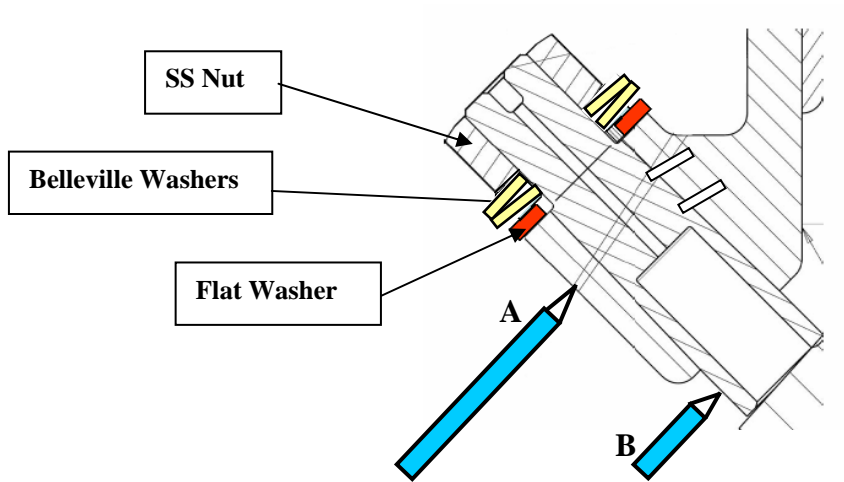
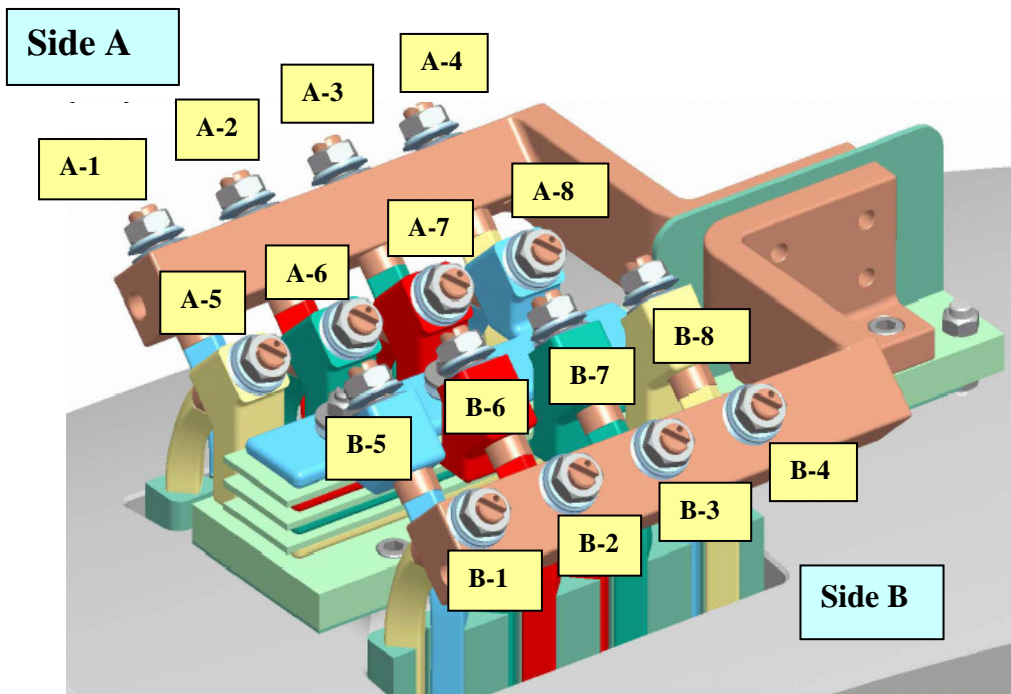

Figure 39- Typical Joint
Figure 40- Final Terminal Connections Identification
6.39.1 Assemble all of the cable connectors to the terminal blocks per drawing SE142C-049. [Figure 39- Typical Joint and Figure 40- Final Terminal Connections Identification]
6.39.2 Measure the joint resistance between the connector and the terminal blocks [points A and B]. See Figure 39- Typical Joint [Acceptance criterion is < **1 micro-ohms.**]